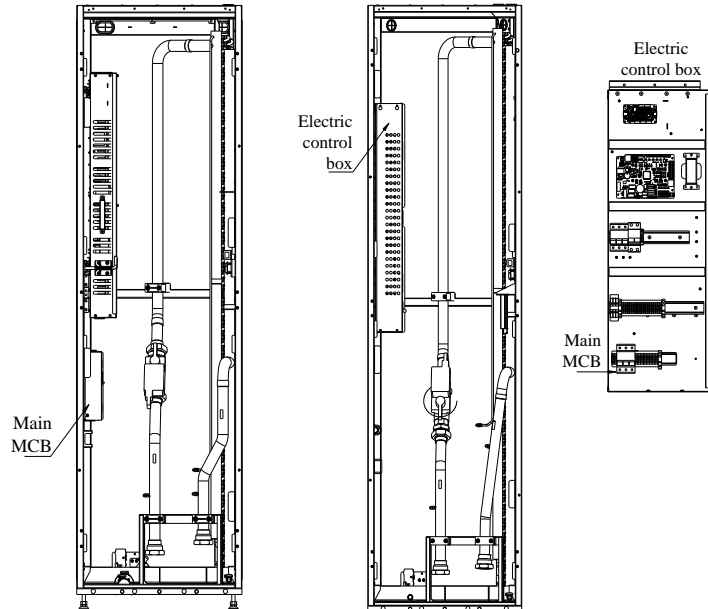

Figure 2-28 Positions of main MCB (with rear door opened)
For any model in the CRV+ CW series, open the back door of the indoor unit following which the specific layout and locations of the low voltage components can be viewed as depicted in Figure 2-28. For detailed layout information on low voltage components, refer to the labels on the cabinets and units.
- The position of the main MCB is shown in Figure 2-28. The L1 to L3, N and PE are respectively connected to the corresponding terminals of the external power supply.